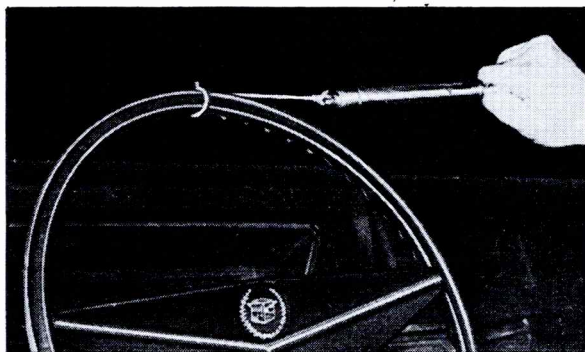

Fig. 9-9 Checking Steering Wheel Pull
3. Turn steering wheel just away from stops, and use a spring tension scale with a piece of tag wire or string to measure pull on steering wheel through an arc not exceeding one inch, Fig. 9-9. Total pull should be between 4 and 12 ounces (thrust bearing and friction).